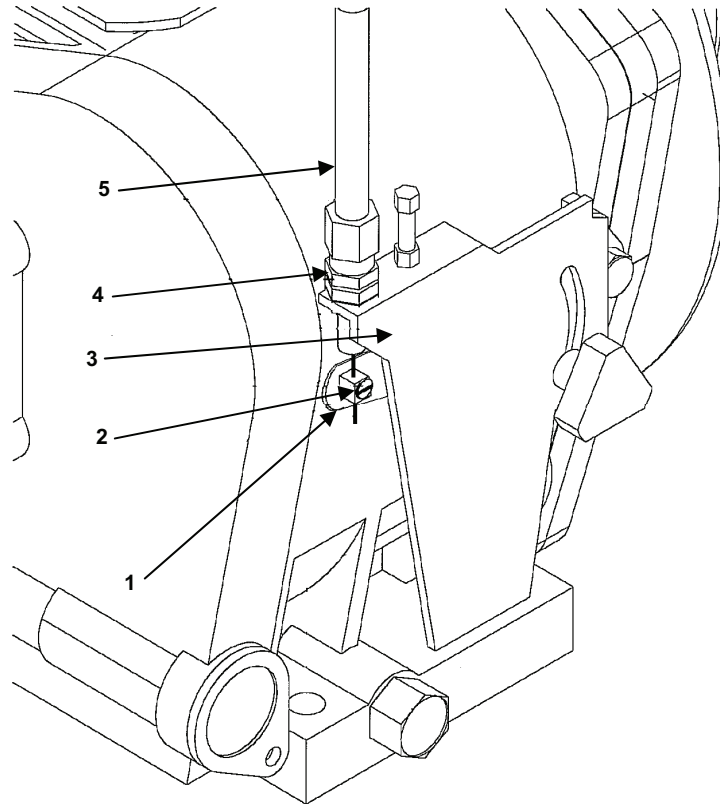

Figure 2. High-Pressure Pump Module Throttle Location.
5. Loosen the setscrew (Figure 2, item 2) on the throttle arm (Figure 2, item 1).
6. Remove cable by loosening lower lock nut (Figure 2, item 4) on throttle plate (Figure 2, item 3) and rotating outer sleeve (Figure 2, item 5) counter-clockwise.
1. Push the throttle cable through the throttle plate (Figure 2, item 3) and set screw (Figure 2, item 2).
2. Screw the throttle cable outer sleeve (Figure 2, item 5) into the throttle plate (Figure 2, item 3).
3. Tighten the lower lock nut (Figure 2, item 4).